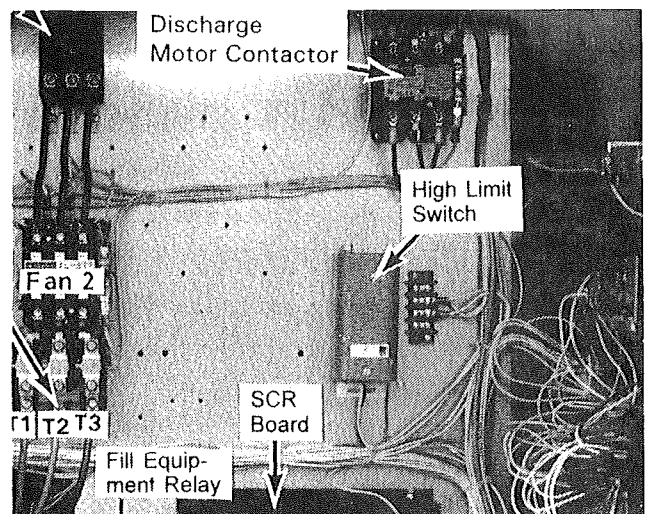

Figure 18
4. Adjust the high limit thermostat (Figure 18), located in the upper right side of the control cabinet, 30-50° above the desired drying temperature or just enough to avoid nuisance shutdowns. (See Recommended Drying Temperatures, page 20.)
- Flip the control circuit toggle switch ON. The control circuit ON light and high limit light will be on. If the high limit light is not on, push the reset button on the high limit switch. See Figure 18.